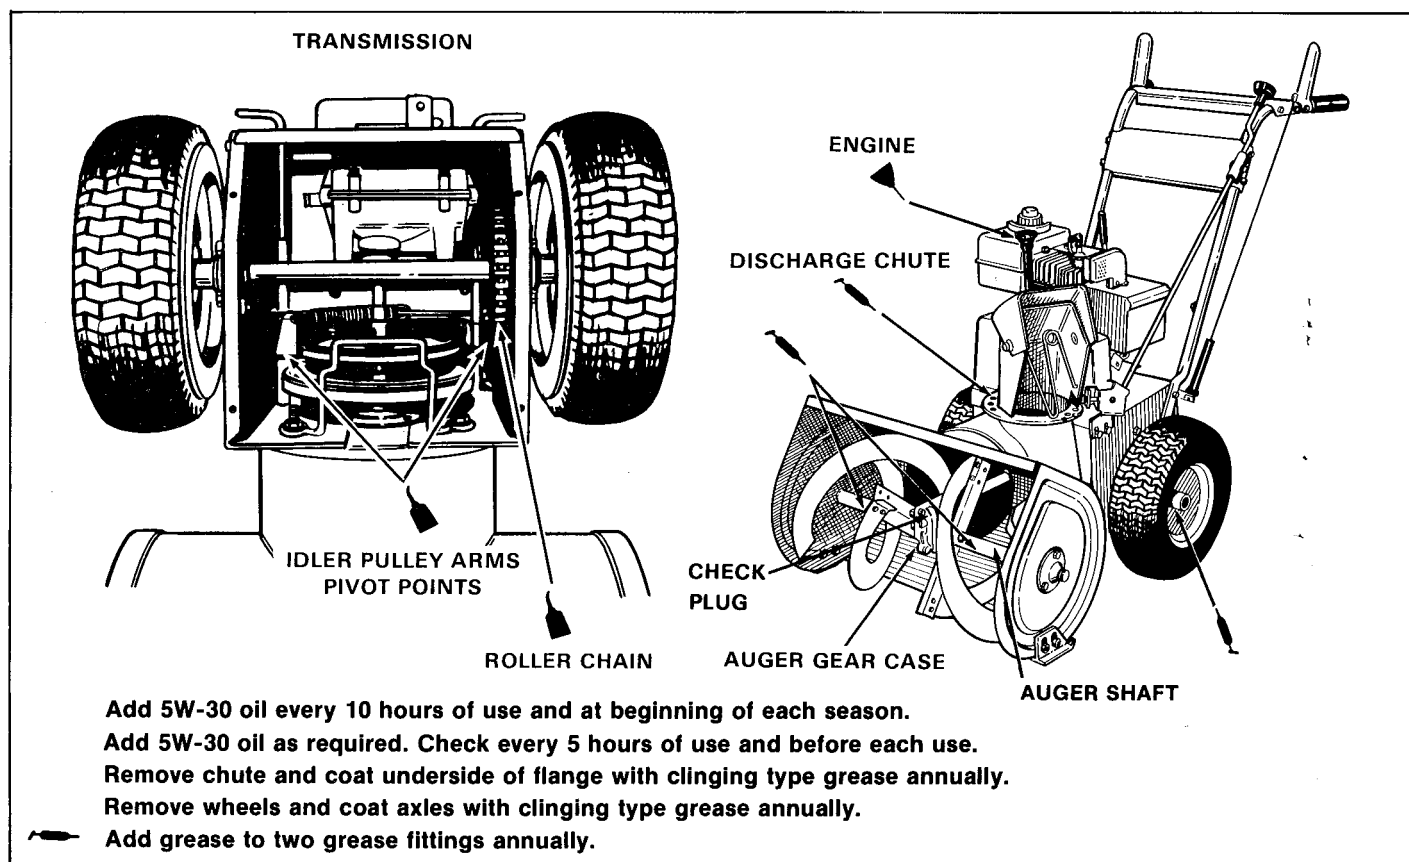

Figure 2. Lubrication Chart
For lubrication points, frequency of lubrication and type of lubricant, see Lubricant Chart (figure 2).
2. The transmission and auger gear case have been factory lubricated for life. If for some reason lubricant should leak out, have transmission or auger gear case checked by your dealer. To check level, remove the check plug (figure 2). The